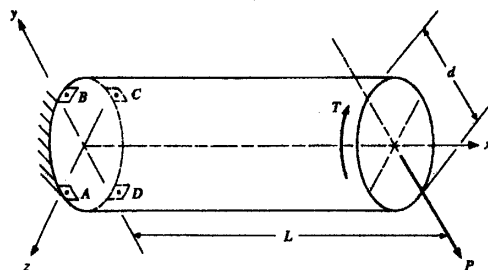

Fig.4
4. The beam shown in Fig.4 is fixed at one end and loaded at the other end with a transverse load P and a torque T . Neglecting the inaccuracies in the stress formulations at the support end, determine the state of stress at point A , B , C , and D . [$I_z = \pi d^4/64$] (25%)